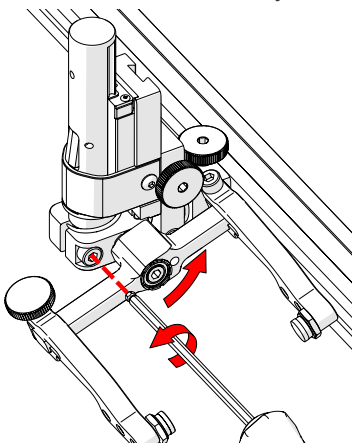

Fig. 136 - Loosen 3 mm screw
2. Using the supplied 3 mm hex driver loosen the transverse adjustment screw (*Fig. 136*) and rotate the yoke about the vertical shaft achieving the desired angle.